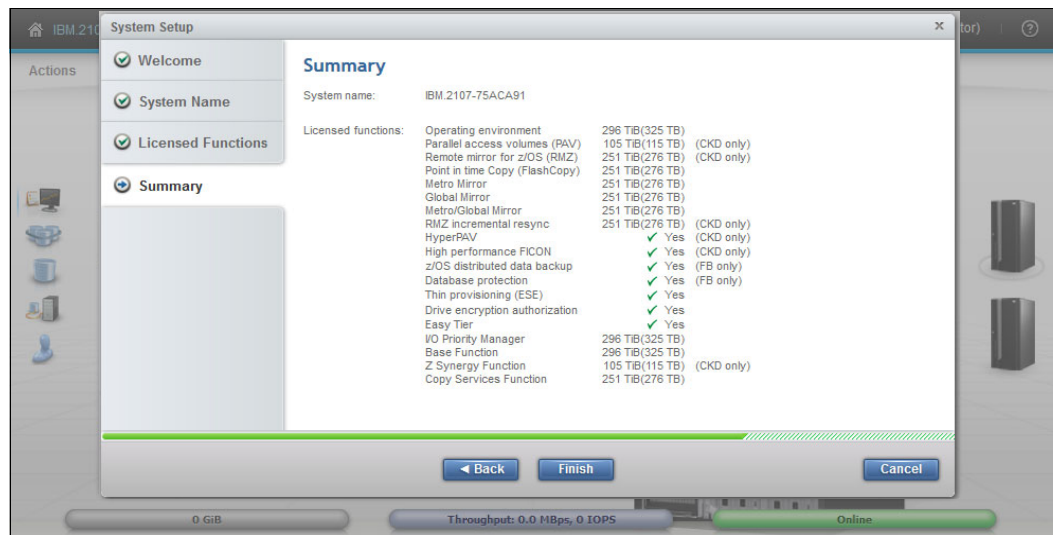

Figure 9-4 Summary of licensed functions
- Click **Summary** in the System Setup wizard to view the list of licensed functions or feature keys that are installed on your DS8000, as shown in Figure 9-4.